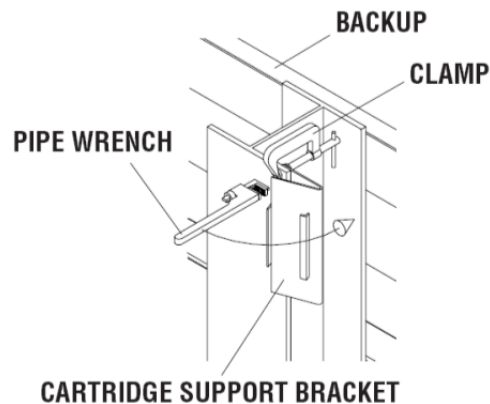

Figure 72
- b. Clamp Cartridge Support Bracket to Backup and begin bending using pipe wrench as shown in Figure 72.